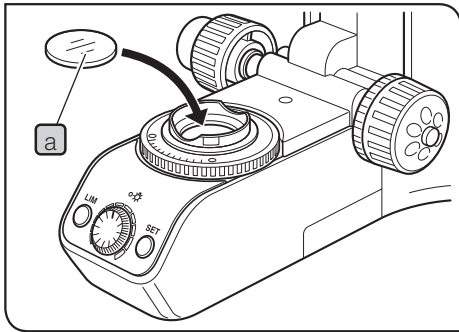

Fig.13
### 3 Using the filters (halogen bulb operation only) (Figs.13 to 17)
- Place a filter on the filter mount on the base and engage in the light path. (Fig.13)
#### Mounting a single filter (Fig.13)